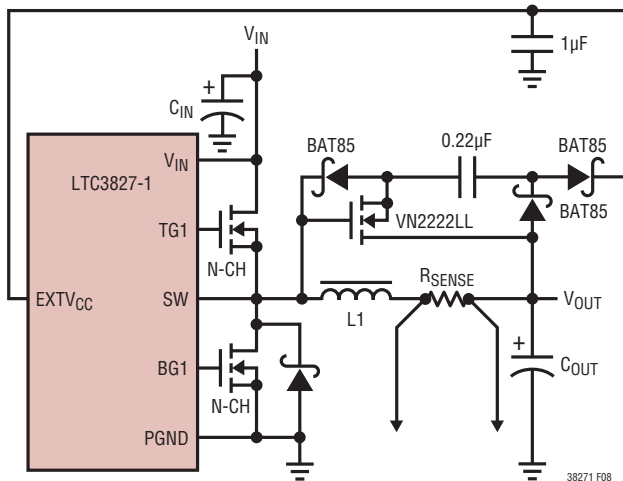

Figure 8. Capacitive Charge Pump for EXTVCC
- EXTVCC Connected to an Output-Derived Boost Network. For 3.3V and other low voltage regulators, efficiency gains can still be realized by connecting EXTVCC to an output-derived voltage that has been boosted to greater than 4.7V. This can be done with the capacitive charge pump shown in Figure 8.